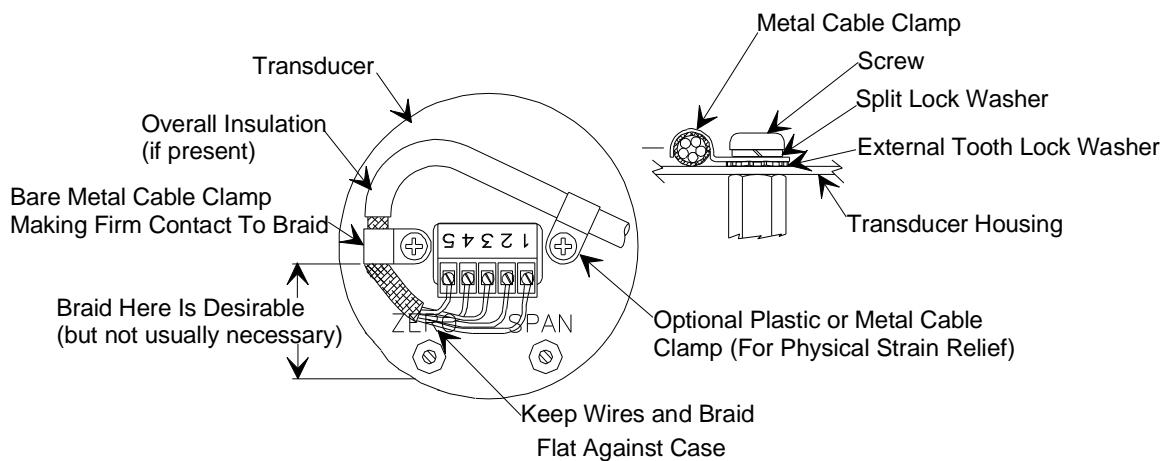
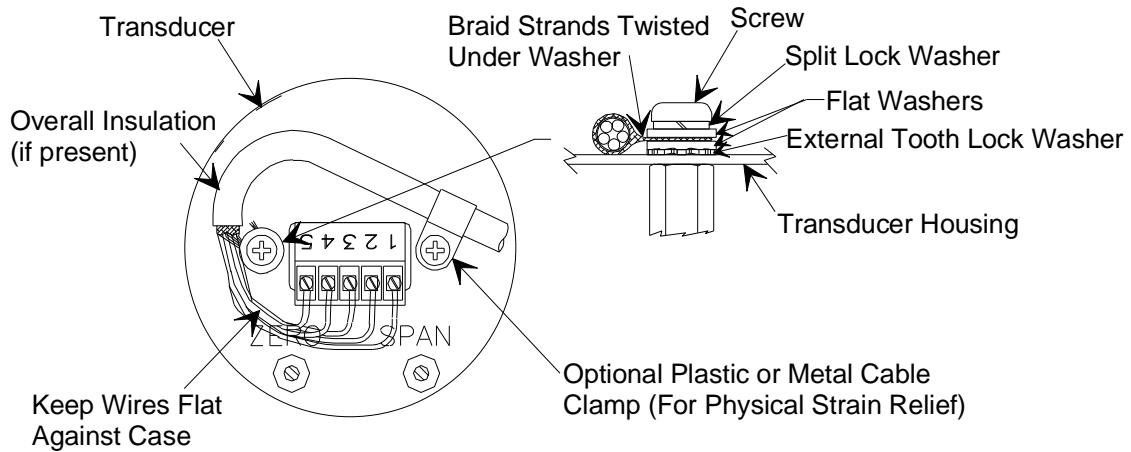

Figure 2: How To Connect the Cable to a Terminal Block (Example 1)
Figure 3: How To Connect the Cable to a Terminal Block (Example 2)
4. For shielded cables with flying leads at one or both ends; it is important at each such end, to ground the shield *before* the wires exit. Make this ground with absolute minimum length. Refer to Figures 2 and 3, page 56. (A  $\frac{1}{4}$  inch piece of #22 wire may be undesirably long since it has approximately 5 nH of inductance, equivalent to 31 ohms at 1000 MHz). After picking up the braid's ground, keep wires and braid flat against the case. With very few exceptions, grounded metal covers are not required over terminal strips. If one is required, it will be stated in the Declaration of Conformity or in the instruction manual.
The cable to the terminal block connector must be firmly attached to the top of the transducer, in order to comply with CE Mark requirements. Figure 2 shows the preferred method to connect the cable; using a metal cable clamp to affix the cable to the transducer. Figure 3 shows an alternate method; wrapping the braided shield under the screw. Both examples show the cable securely clamped to the transducer.